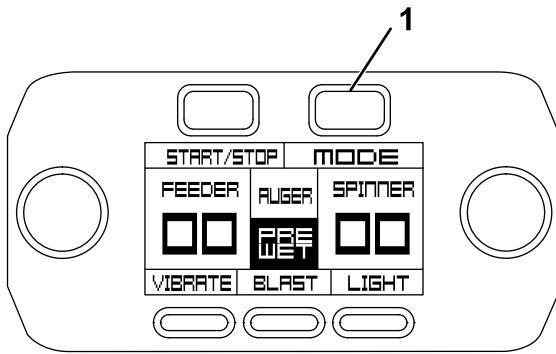

Figure 46
1. To deactivate the pre-wet system, press the Mode button on the controller (Figure 46).